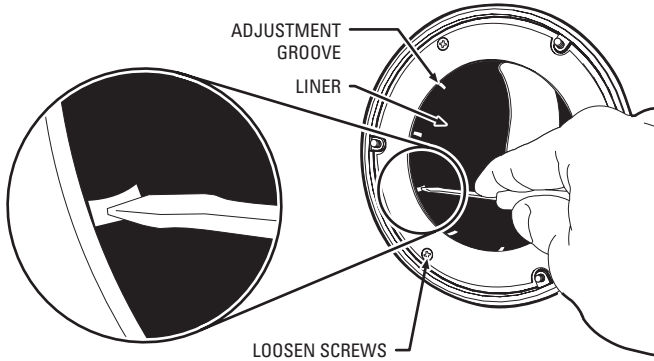

Figure 16. Adjusting the Liner
1. Adjust the liner (if installed), refer to Figure 16: